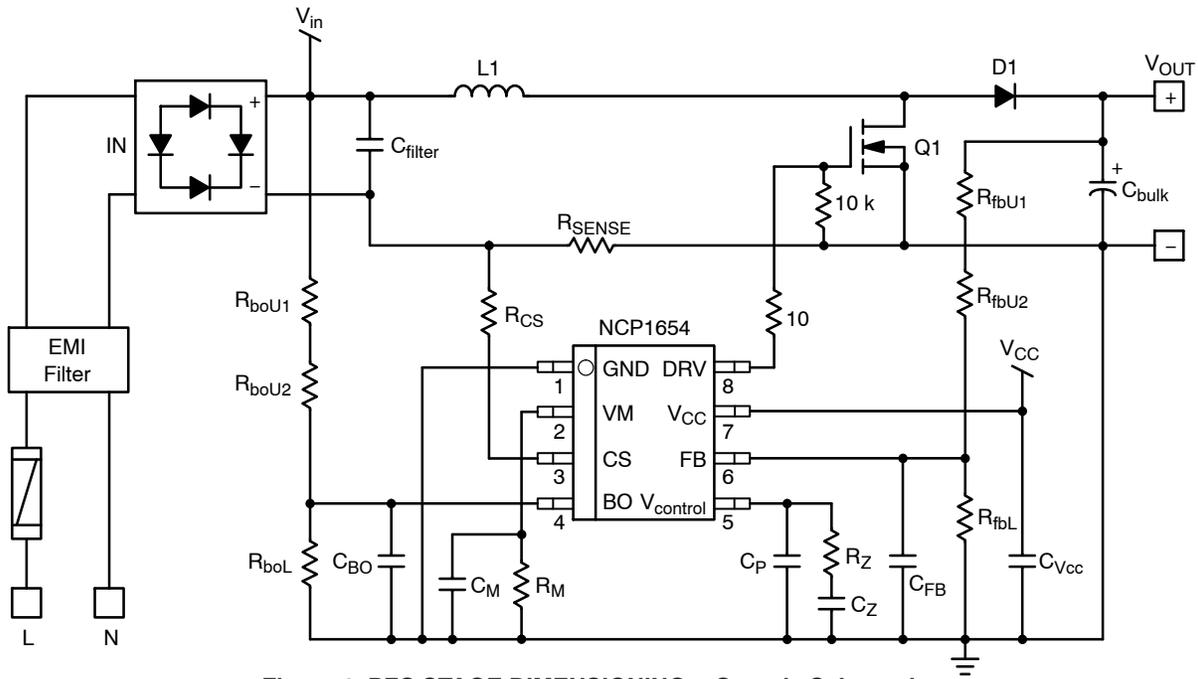

Figure 1. PFC STAGE DIMENSIONING – Generic Schematic
As shown by Figure 1, the feedback arrangement consists of:
- R_{fbU1} , R_{fbU2} , and R_{fbL} set output voltage. In practice, one generally implements more resistors as upper side feedback loop for safety consideration. Refer to Figure 1, given that V_{out} is a high voltage, an accidental shortage of the feedback resistor would destroy the controller. That is why it is better to have several series resistors instead of only one.
- R_{boU} ($= R_{boU1} + R_{boU2}$ in Figure 1) and R_{boL} are dimensioned to adjust the threshold of brown out protection. Because of the safety consideration, it is recommended to split this upper side brown out resistor into 2 or more resistors.